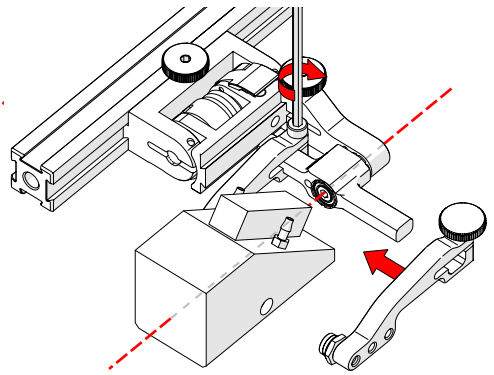

Fig. 172 - Place wedge
7. Position the wedge on the inner probe holder arm (Fig. 172).